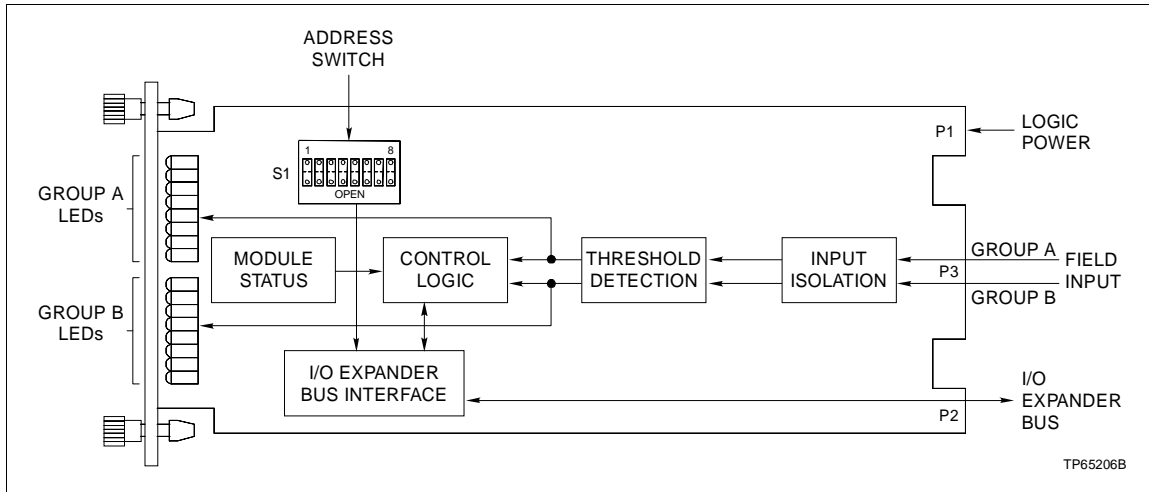

Figure 2-1. Digital Input Module Block Diagram
This section explains the inputs and input circuitry, control logic, logic power and connections for the IMDSI1□ Digital Input modules. The DSI is a digital input interface to a multi-function processor (MFP), multi-function controller (MFC), or logic master module (LMM). These control modules provide the control functions. A control module communicates with its I/O modules on a I/O expander bus as shown in Figure 1-1. Each I/O module on the I/O expander bus has a unique address set by address dipswitch S1 (Fig. 2-1).
Figure 2-1 is a block diagram illustrating signal flow through the module. The input isolation block consists of current limiters and optocouplers to isolate the 16 field inputs from the module circuitry. The input circuits provide 1500 VDC isolation between input and logic circuitry and other input channels. Refer to Table 1-5.
The contact input signals connect to the 30-pin card edge connector (P3), shown in Figure 2-1, using a termination cable from a termination unit or termination module.
Function Code (FC) 84 in the control module configuration accesses the DSI on the I/O expander bus. It also allows the control module to automatically read point (input) data or status data from the DSI. This data is output by the buffer circuits (control logic) to the I/O expander bus interface (Fig. 2-1). The I/O address in FC 84 must be the same as the address set on address dipswitch (S1).